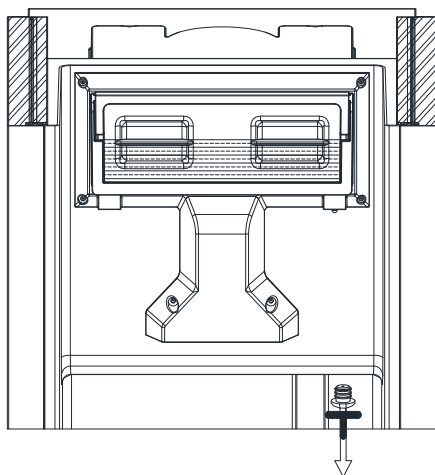

Fig.9
6. You can pull the drain plug (Fig.9), to drain the cleaned water in the water tank
7. Then reinstall the drain plug. (Fig.9)